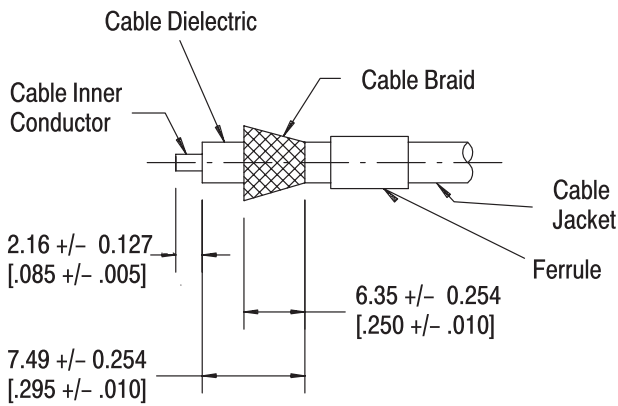

Figure 3
### 2.1. Coaxial Cable Preparation (Figure 3)
- Strip the end portion of the cable jacket to expose the cable braid to the dimensions in Figure 3.
- Flare the cable braid as shown in Figure 3.